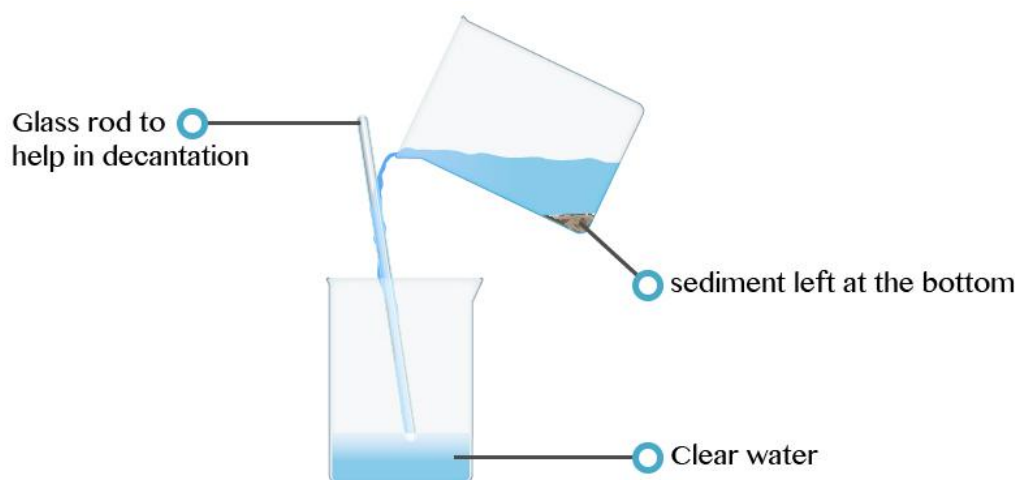

Figure 9: Decantation of muddy water
3. Poured the liquid above solid into another beaker as shown in Figure 9.